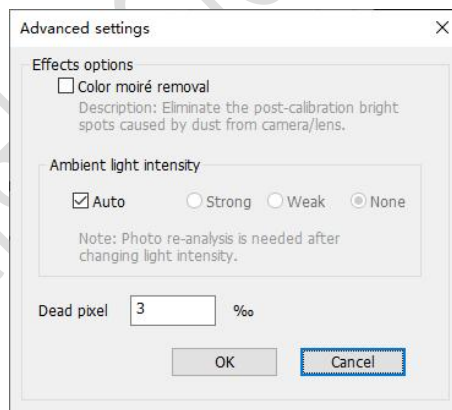

Fig.4-29 Effects settings for Canon camera (COB module)
- **COB:** If you have selected **COB** before, the available option in **Effects settings** will only include **Image dust off**. See Figure 4-29.